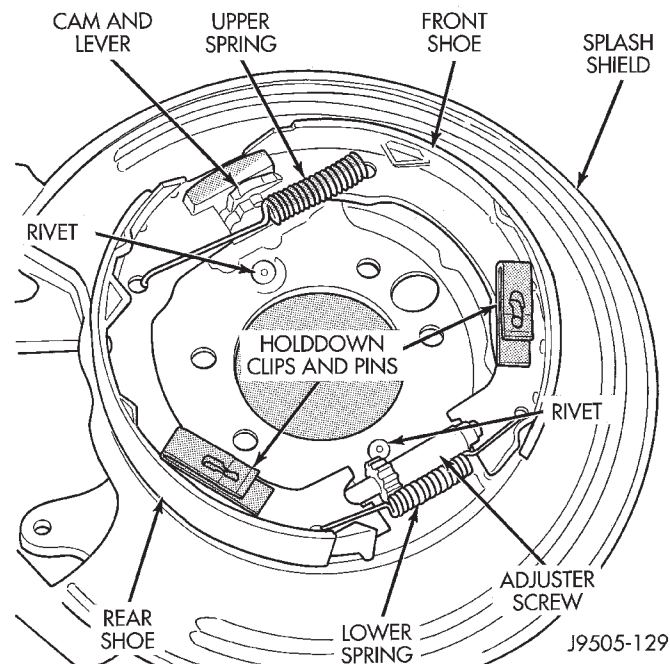

Fig. 58 Parking Brake Shoes Mounted On Shield
(7) Install parking brake shoes on splash shield. Verify positioning of cam and lever, shoes, springs and hold-down clips and pins (Fig. 58).